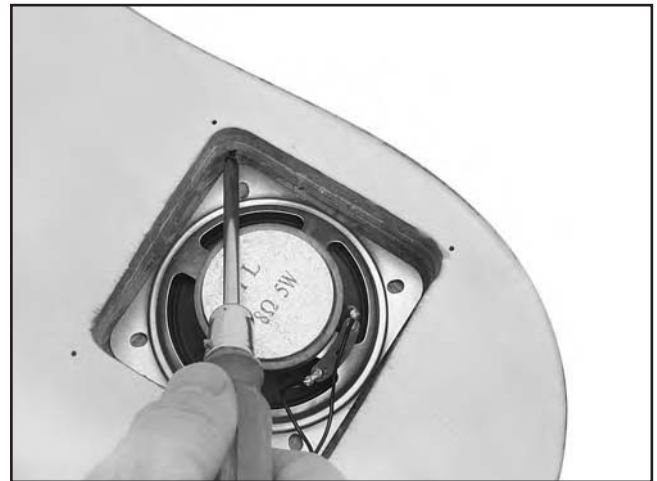

Figure 10. Fastening speaker with screws.
3. Secure the speaker with four #2 x 1/4" black screws (see **Figure 10**). Make sure the screws are tight enough that the speaker will not move.